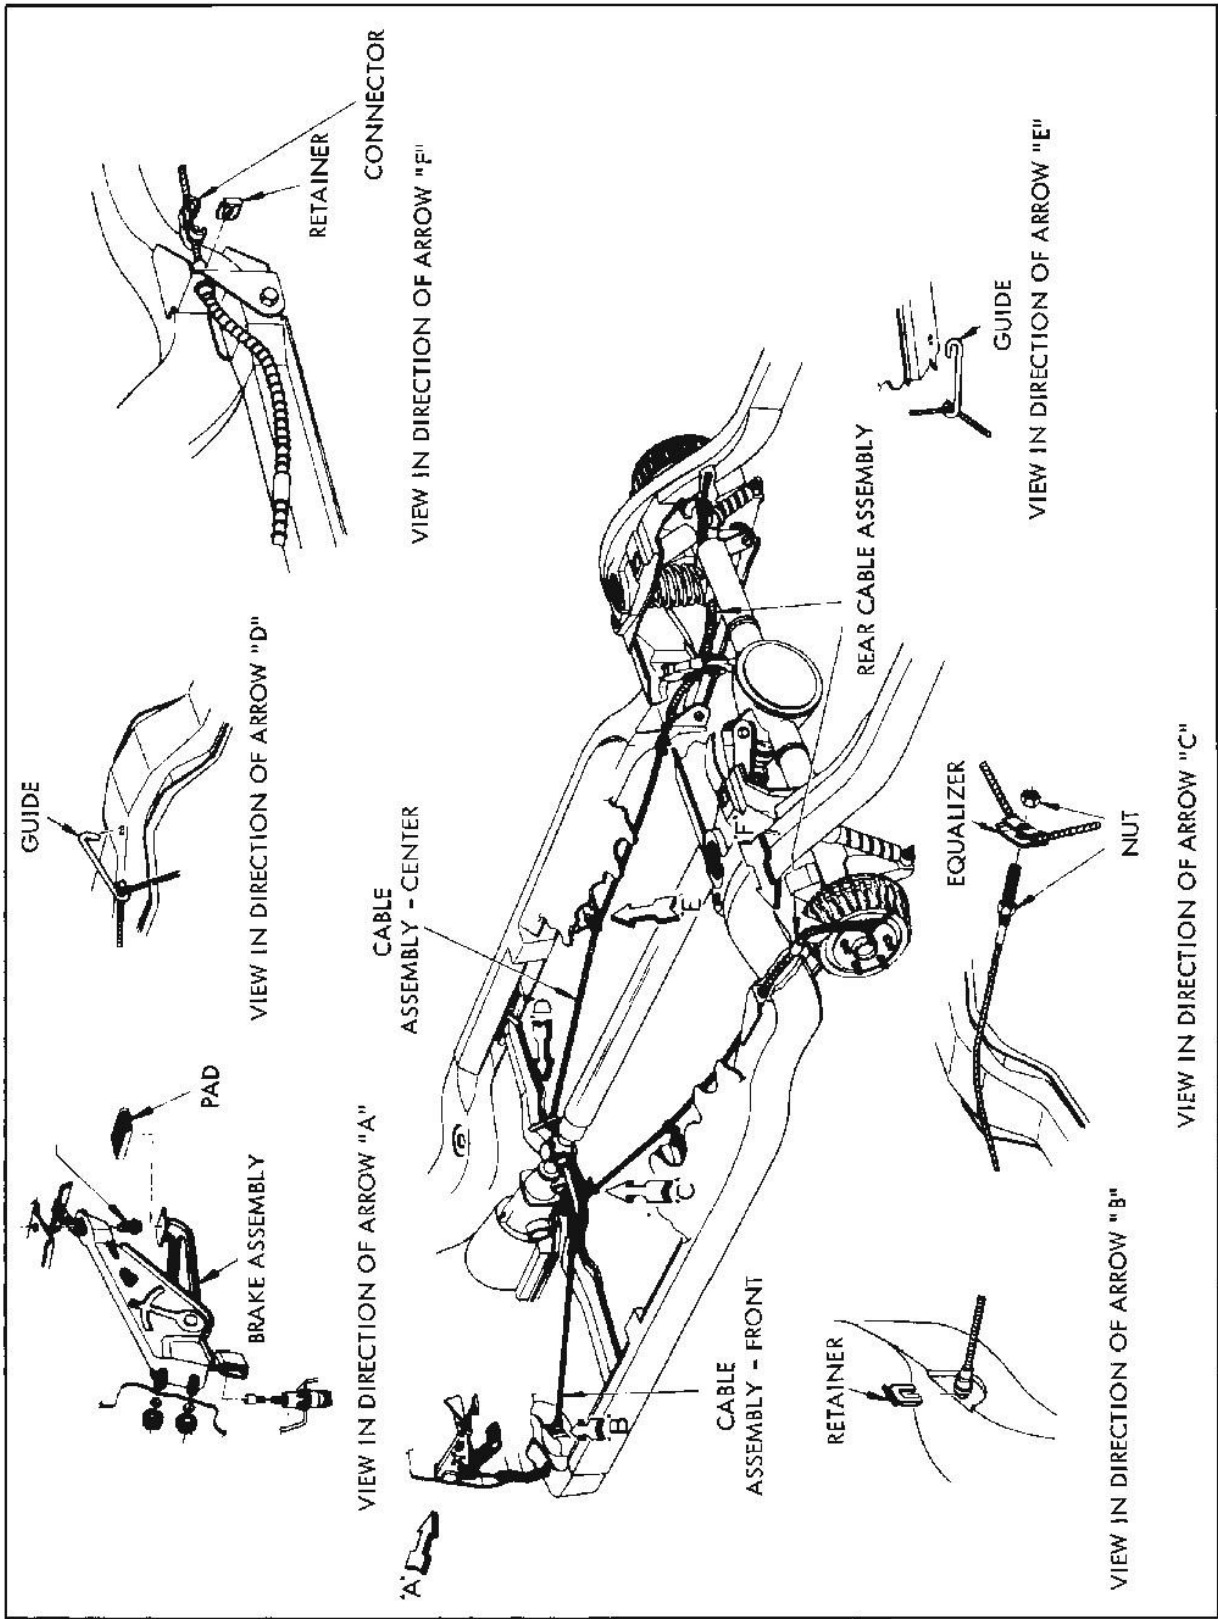

FIG. 5-2 Schematic Diagram of Parking Brake System
The parking brake lever (Fig. 5-2) operates the rear brakes through a system of cables. This brake is foot operated and the actuating lever is mounted under the left side of the instrument panel.
3. If equalization requires more than a few notches movement, retighten adjusting screw to point for proper adjustment of that brake and equalize rear cable by loosening the cable clamp screws at the equalizer clevis, and pulling downward on the tight side of the cable. It may be necessary to open the clamp with a screwdriver to allow the cable to equalize (Fig. 5-2).
5. Close adjustment for tension may be secured by adjusting the clevis at the rear end of the front cable. In adjusting here, be certain to turn clevis on or off cable end and do not twist the cable (Fig. 5-2).